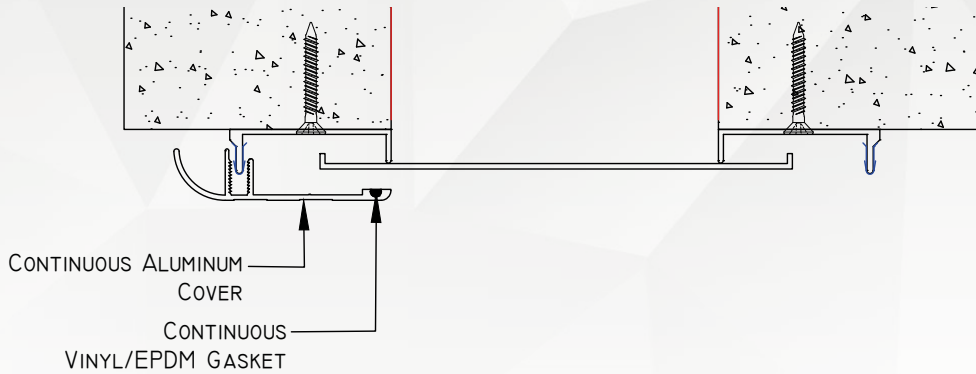

Figure 5.
16. Ensuring that the center plate remains properly aligned and centered, place one of the cover plates in position over the installed base member and the center plate (see Figure 5). The cover plate's channel will align with the base member's tab and the gasket will rest over the center plate.